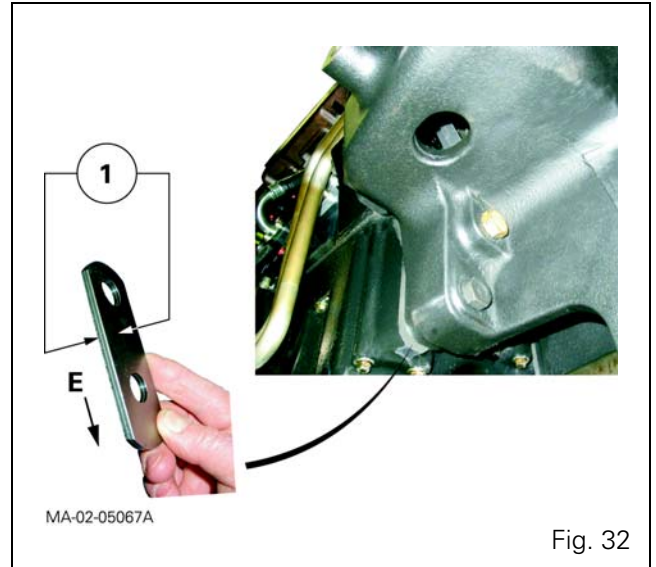

Fig. 32
- 60.** Using two stacked shims (1), each at least 2.30 mm thick (Fig. 32), measure the gap between the mating faces of the engine sump and front frame.
Insert them between the front frame and the engine sump (Fig. 32).